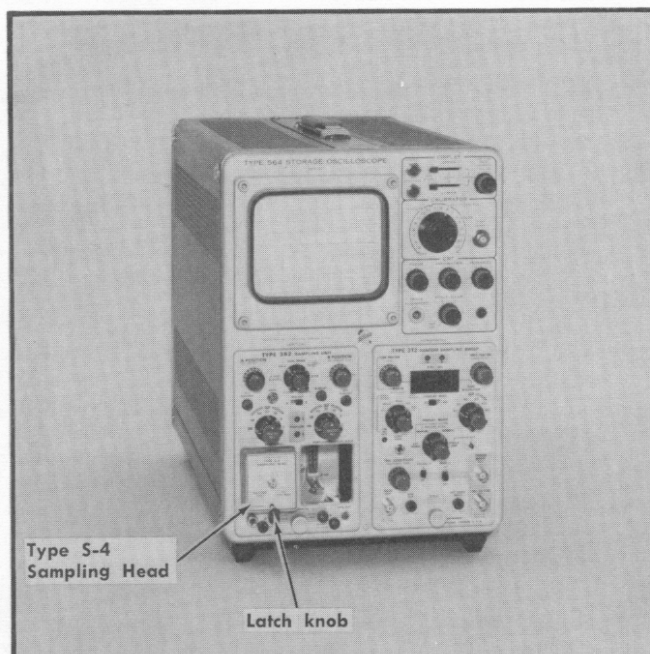

Fig. 2-1. Inserting the Type S-4 Sampling Head in the sampling unit.
Fig. 2-1 shows the Type S-4 partially installed in a Type 3S2 Sampling Unit with a Type 564 Oscilloscope and a Type 3T2 Random Sampling Sweep unit. The sampling head (or heads) can be plugged into the sampling unit as shown, or used remotely on a special extender cable. Three and six foot extender cables are available. Order the three foot extender cable by Tektronix Part No. 012-0124-00, or the six foot extender cable by Tektronix Part No. 012-0125-00. Contact your local Tektronix Field Engineer or Representative for price and availability of these optional accessories.
1. Pull the latch knob (Fig. 2-1) outward from the front panel (the latch knob will push out normally when the unit is inserted if the knob is left free to move).